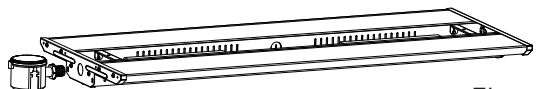

Figure 10
2. Knock out the side cover, mount the sensor on the side, perform the wiring according to instruction on sensor (Figure 10).